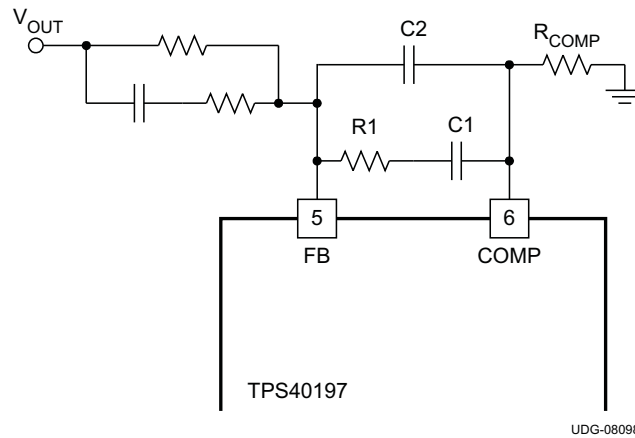

Figure 16. Short Circuit Threshold Feedback Network
- R1 and C1 are the values of the components in Figure 16
- (1)